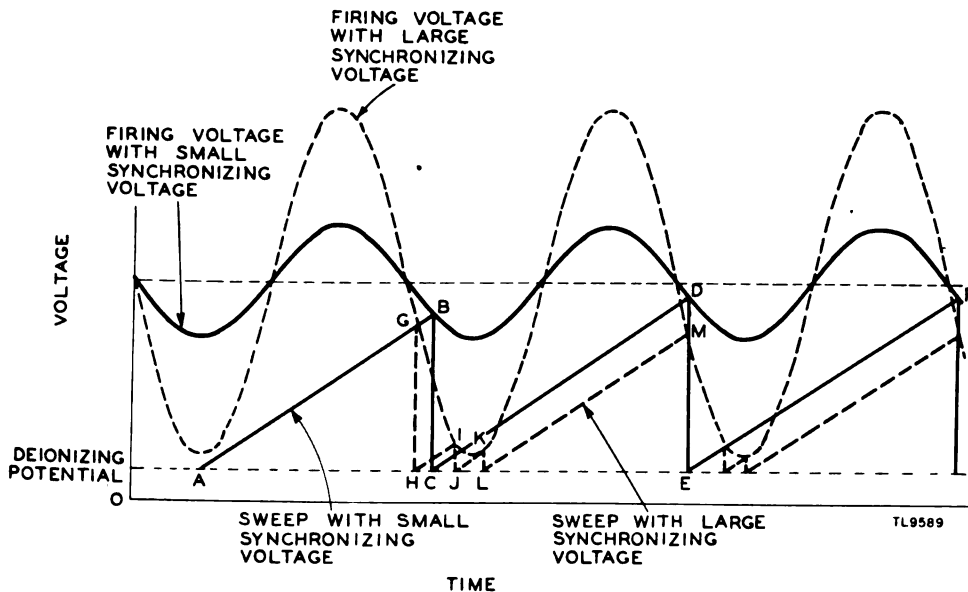

Figure 17. Distortion of sweep resulting from too much synchronization.
(4) The synchronizing signal amplitude must be kept as low as possible during operation, because too much signal causes distortion. The reason for this is explained by figure 17. With a small value of synchronizing voltage the firing voltage is represented by the solid line BDF . The rise of the saw-tooth reaches the firing potential once for each synchronizing cycle, at B, D, and F, and the sweep is synchronized with the signal. If the synchronizing signal is increased so that the curve of the firing voltage is along the dotted curve $GIKM$, the rise of the saw-tooth reaches the firing potential three times for each cycle in the signal, at G, I, K, M, etc., and starts a new cycle each time. This causes distortion of the sweep and of the pattern on the screen.